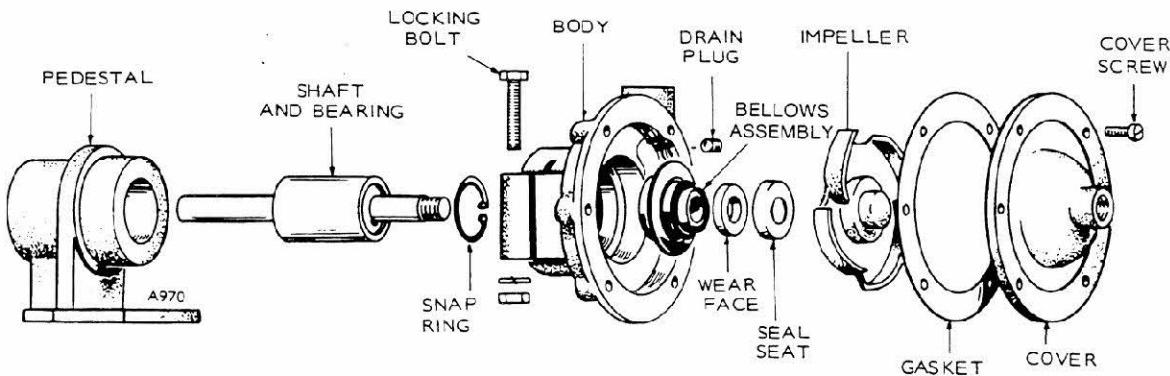

FIGURE 28. CENTRIFUGAL PUMP 132-0110
**CAUTION** *Do not use the existing neoprene impeller water pump in the hot water side of the cooling system. Heat or soluble oil (in many rust inhibitors and anti-freezes) will damage the impeller. Instead, connect the neoprene impeller pump on the cold water side. Use a metal impeller, centrifugal-type water pump (Onan 132-0110 or equal) in the fresh water side. See Figure 28.*